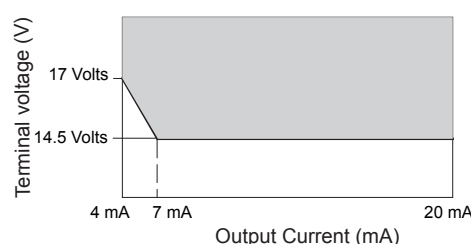

Figure 2-2. Minimum terminal voltage at the DO202
- Note: The transmitter contains a switched power supply, drawing its energy from the 0-4 mA section of the signal. Consequently the 17 volt limit is applied at 4 mA. The characteristic of the unit is such that above about 7 mA on the output, the terminal voltage can drop to 14.5 volts without problem. (see figure 2-2)